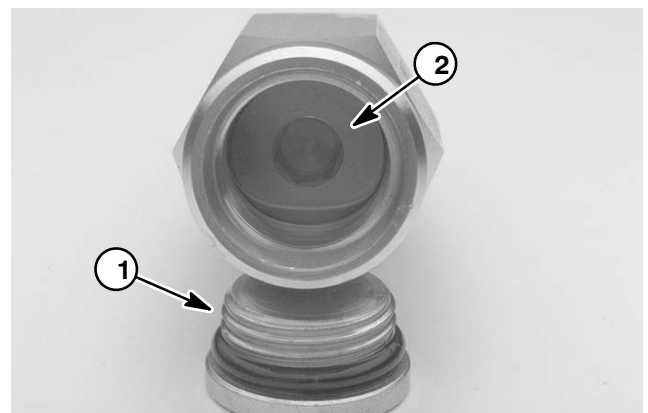

Figure 17
- A. Remove the cap from the relief valve (Fig. 17).